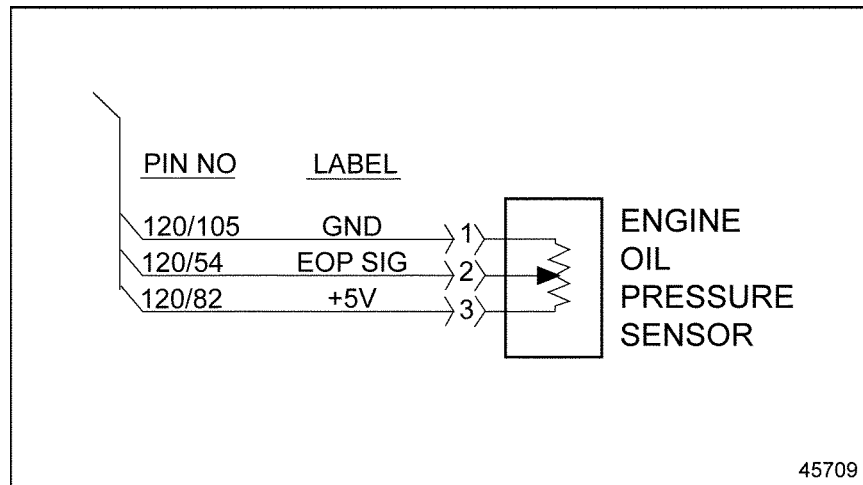

Figure 7-4 Engine Oil Pressure Sensor Wiring
2. Measure the resistance between pins 1 and 3 of the EOP Sensor. See Figure 7-4.
3. Measure the resistance between pins 1 and 2 of the EOP Sensor. See Figure 7-4.